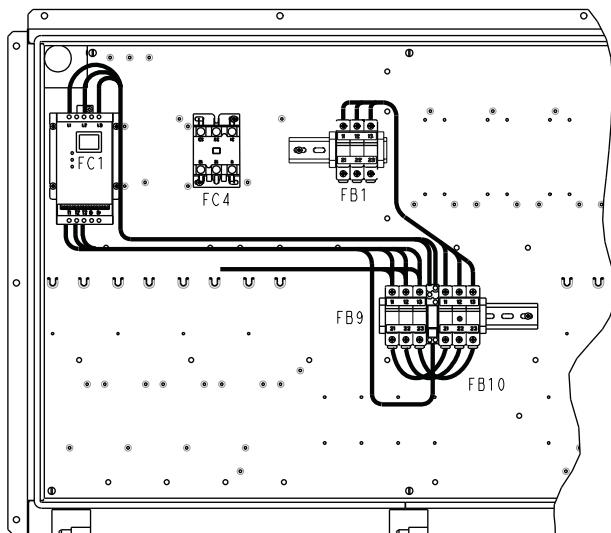

Fig. 16 — Motormaster® V Installation Location — 38APS065 Units (High SCCR Unit Shown)
3. Mount Motormaster V controller (Item 25) in location where FC1 was mounted, using 4 AL80AU170 screws (Item 9) provided. See Fig. 16.